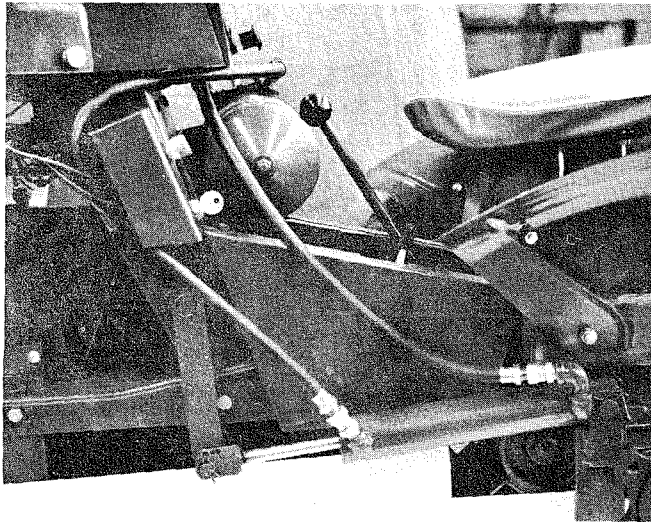

Figure 2
6. Remove lift lever quadrant (4222) then bolt on new instrument panel in same two holes, again using same bolts which were in tractor. See Figure 2.
10. Fasten hoses to lift cylinder first installing the couplings into the street elbows on cylinder. Hook long hose to the front coupling and short one to the rear. See Figure 2. Make sure all hose connections are tight.